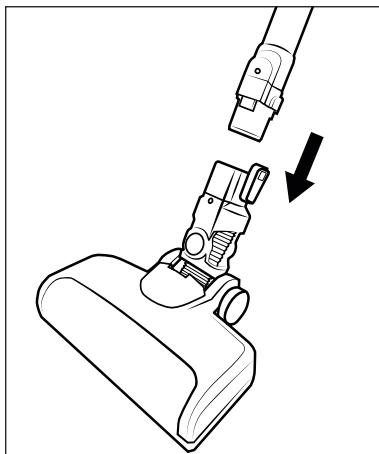

Fig. 2
- 2) Push the suction pipe 24 into the floor brush 22 until it audibly clicks into place (see Fig. 2).